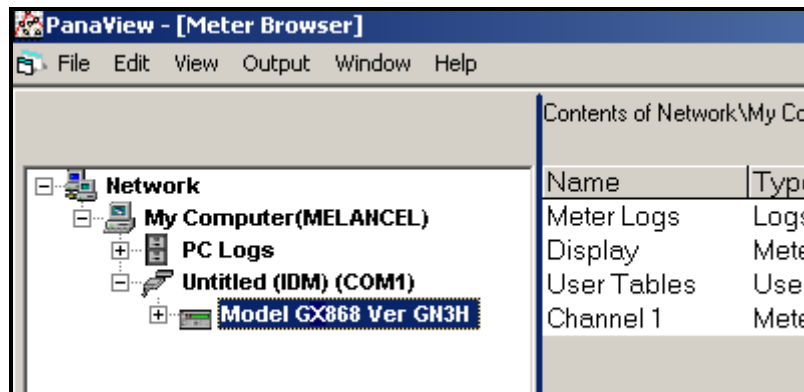

Figure 22: The Updated Network Tree
If the initialization is successful, the Meter Browser shows a listing similar to Figure 22 below.
1. Highlight the meter (as shown in Figure 22 on page 100).